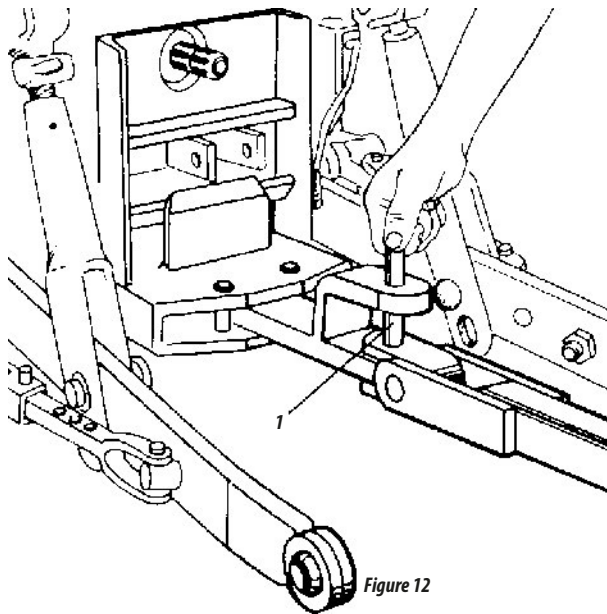

Figure 12
- 25 - To hitch the harrow on the drawbar of the tractor, must check the alignment, adjust the exact height of the hitch of the harrow, use the L coupling pin and cotter pin it as shown in Figure 12.